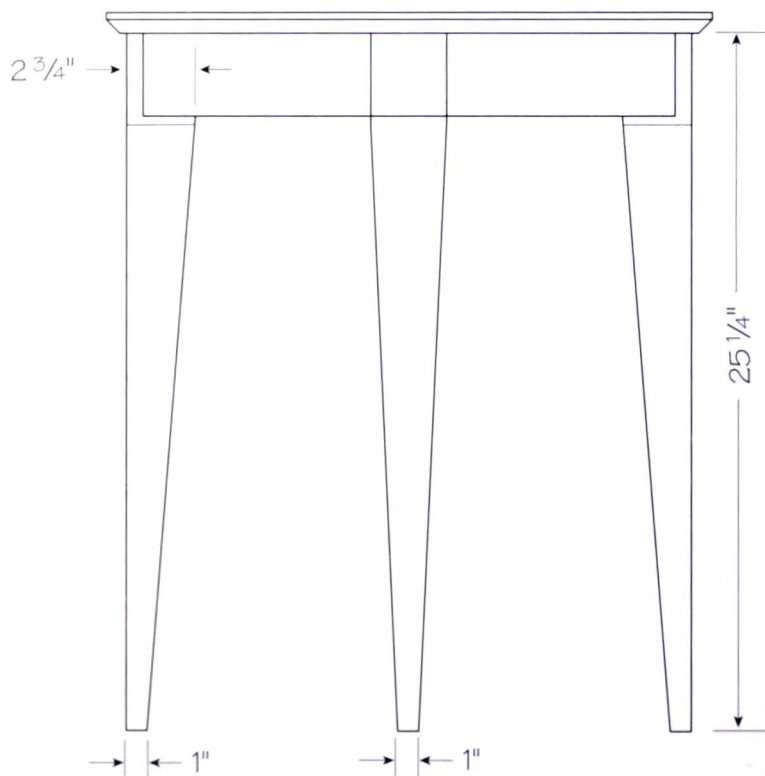

Figure 2
2. The outside face of each leg is straight, while the other three faces taper, as shown in figure 2. You could make jigs to taper the legs on the table saw (two jigs for the back and side tapers), but it is probably quicker to draw the tapers on the legs and band saw them. Draw the back taper on a side of each leg, from its top back corner to $\frac{3}{4}$ " from the outside edge at the bottom. Band saw just outside the line, and clean the face with a pass over the jointer.